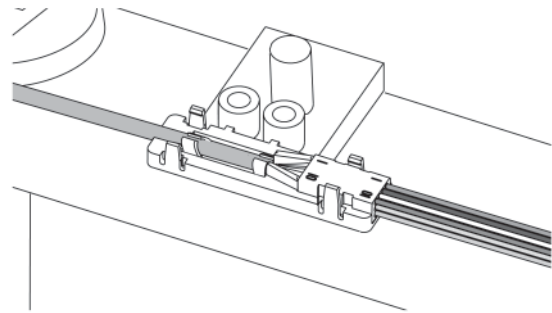

Figure 19
7.8 Lower the insert section into the BTF body and press it into place (Figure 19).